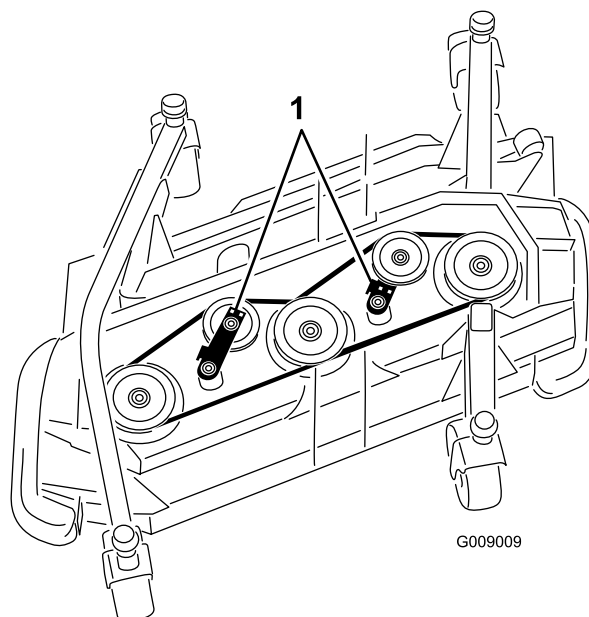

Figure 96
5. Using a ratchet wrench or similar tool, move the idler pulleys away from the drive belt to release the belt tension and allow the belt to slip off the pulleys (Figure 96).